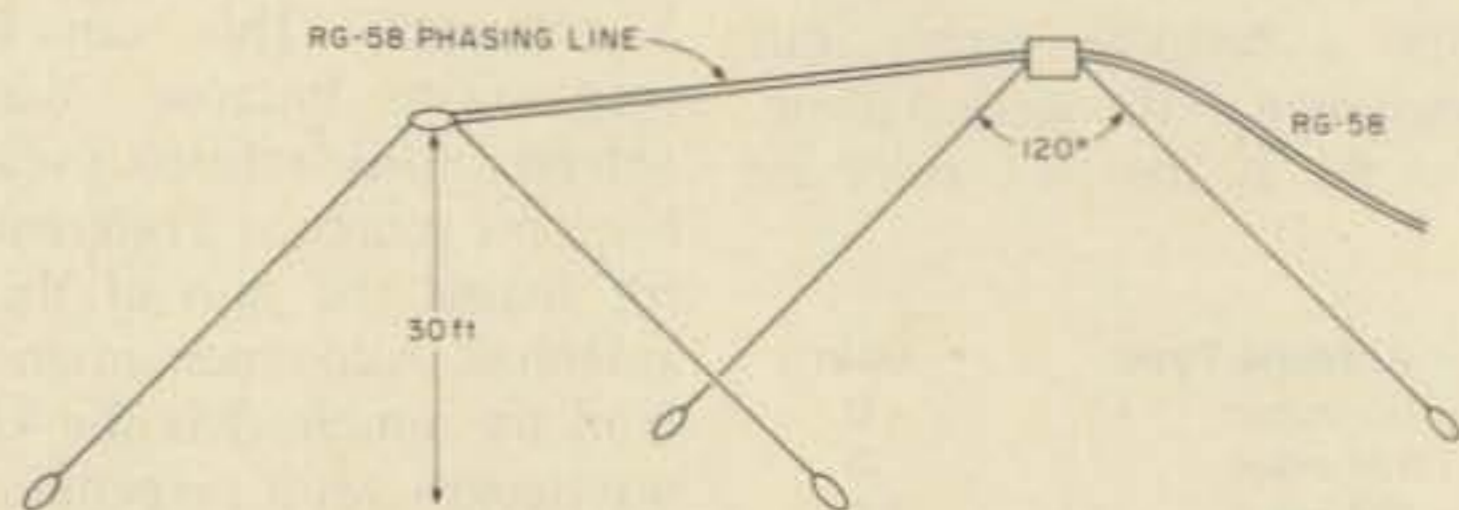

Fig. 2.
The next step is to disassemble the loading coil. When the plastic cover is slid off, you will find two coil windings, a small shunt-wound impedance-matching portion at the base, and a dozen or so turns of #14-16 wire which constitutes the loading coil proper, as shown in Fig. 1. Both windings must be removed. Once this is done, wind five (5) turns of #14 or #16 PE wire around the coil form between points "B" and "C" as shown in Fig. 2. An impedance-matching shunt coil isn't required for the 2 meter antenna.
The thought of sinking four poles and cluttering up the landscape probably won't enchant too many people, so let's look at a less painful way of achieving the same result. How about just two poles (trees, etc.)? Okay, how about a bidirectional inverted V beam? Would you believe just two 30 foot poles? The normal inverted V with a 90° apex angle has predominantly a vertical angle of radiation, so let's use a 120° apex angle to enhance the horizontal radiation characteristic. On 80 meters, this means the support for the antenna apex will be approximately 30 feet tall. This would be easily handled by TV masting, since the antenna elements can be used as guys. See Fig. 2.